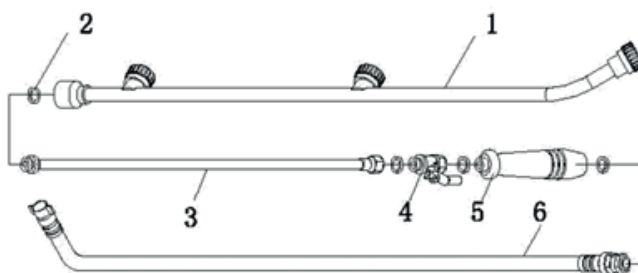

Figure 1
(1) Preparation before start
- (a) Connecting of spraying parts. Before start, all the connections should be correct, the method is as Figure 1.